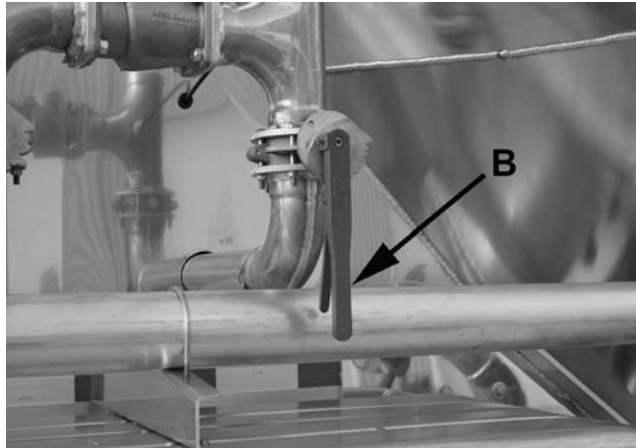

Figure 5-2 – Blow Down Valve Open
3. Verify blow down valve (B) is open. See Figure 5-2.